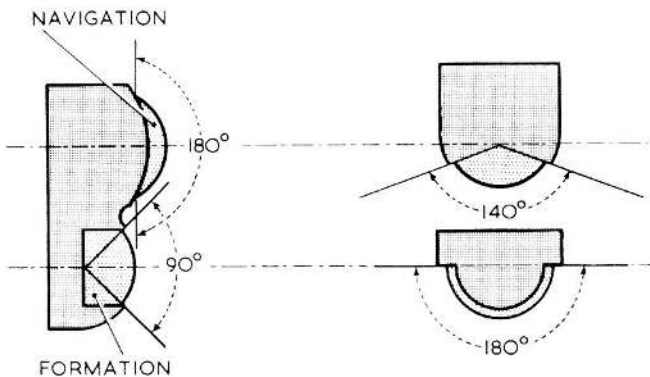

Fig. 3. Angles of divergence
3. The lamp, normally fitted behind a transparent window, is mounted on the fin unit of the aircraft. The angular range of vision of this lamp is shown in Fig. 3. The lamp is secured in position by two 4 B.A. screws. Access to terminals of the lamp is obtained by unscrewing the moulded cover.